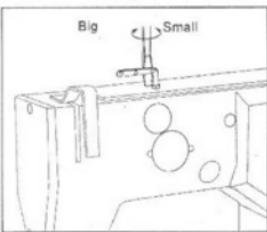

Fig.15
## 23. The presser foot pressure adjustment (Fig.15)
2) Adjustment as shown in Fig.15.